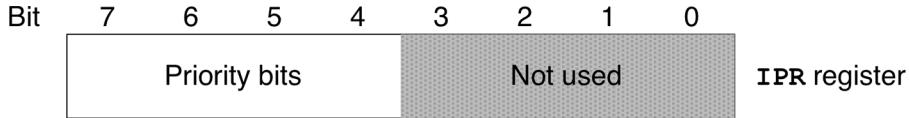

Figure 15: The content of IPR register on an STM32 MCU based on Cortex-M3/4/7 core
**Figure 15** clearly shows how the content of IPR is interpreted. This means that we have the only sixteen maximum priority levels: 0x00, 0x10, 0x20, 0x30, 0x40, 0x50, 0x60, 0x70, 0x80, 0x90, 0xA0, 0xB0, 0xC0, 0xD0, 0xE0, 0xF0. The lower this number is, the higher the priority is. That is, an IRQ having a priority equal to 0x10 has a higher priority than an IRQ with a priority level equal to 0xA0. If two interrupts fire at the same time, the one with the higher priority will be served first. If the processor is already servicing an interrupt and a higher priority interrupts fires, then the current interrupt is suspended and the control passes to the higher priority interrupt. When this is completed, the execution goes back to the previous interrupt, if no other interrupts with higher priority occurs in the meantime.